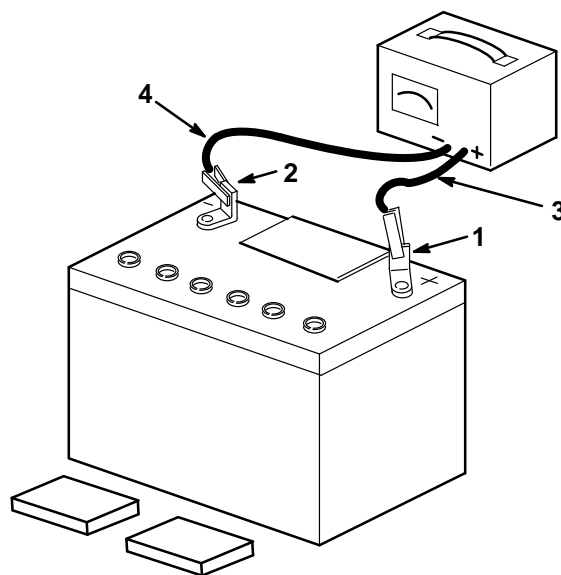

Figure 11
- Leave the filler caps off and connect a 3–4 amp battery charger to the battery posts (Fig. 11). Charge the battery at a rate of 4 amperes or less for 4 hours (12 volts).
- When the battery is fully charged, unplug the charger from electrical outlet, then disconnect the charger leads from the battery posts (Fig. 11).